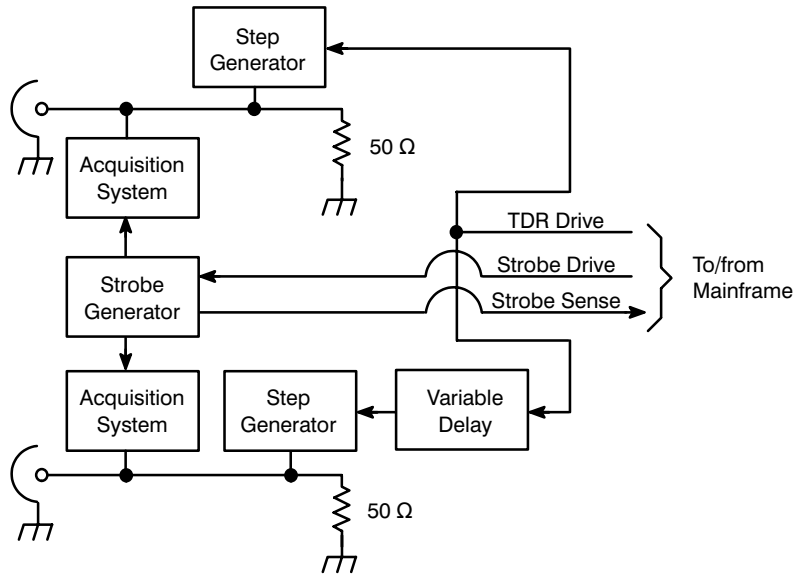

Figure 1: SD-24 Sampling Head Block Diagram
- Figure 1: SD-24 Sampling Head Block Diagram 2
As shown in Figure 1, the SD-24 has two independent channels; each has its own acquisition and step generation circuitry. The strobe drive signal from the mainframe controls the timing of the strobe assertion to each acquisition system. The strobe generator in the sampling head is common to both channels, guaranteeing sampling coincidence between the two channels.